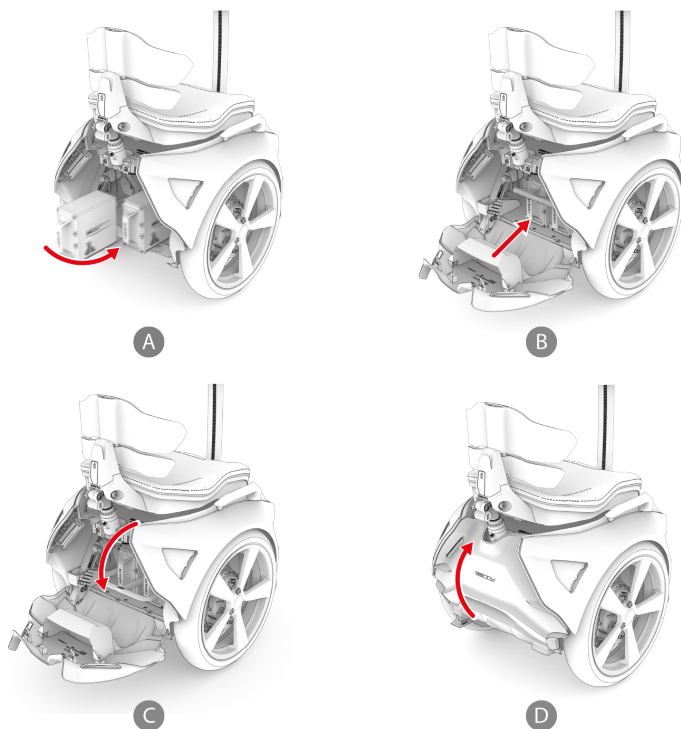

Figure 5.2 - Inserting batteries
6. Close the rear door of GENNY (Figure 5.2 D).
In this case, follow the procedure for Inserting and removing batteries with the exception of the step in Figure 5.2 A.